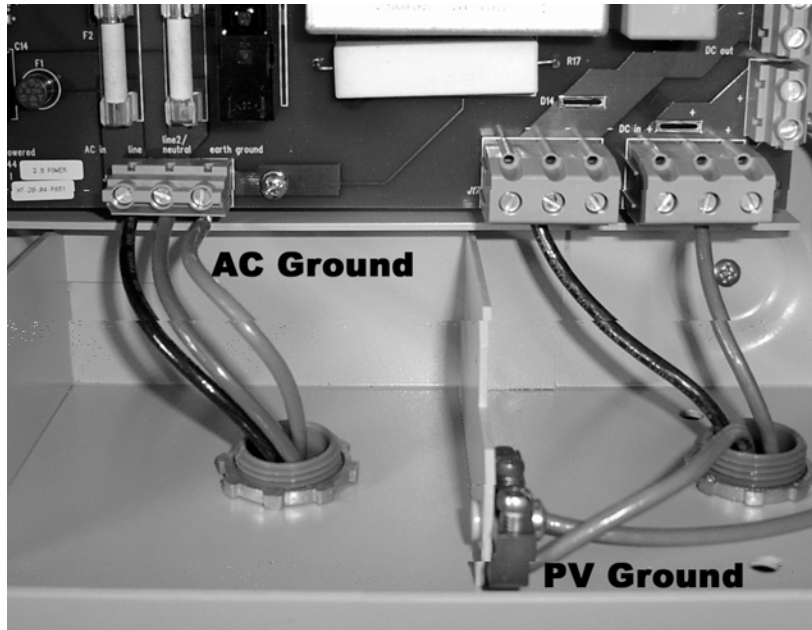

Figure 7: AC and PV Grounding
- ◆ A single point ground connection is located in the lower right hand side of the StarInverter cabinet. The PV panel grounding wire is terminated there. The AC ground connection is terminated next to the Line and Line 2/Neutral connections on the circuit board. The PV ground is bolted to the cabinet with a 1/4-20 bolt. (Refer to Figure 7.)